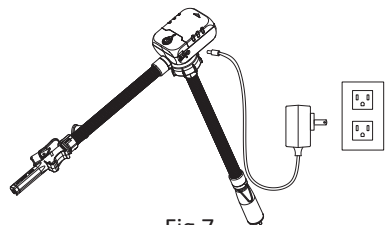

Fig.7
- 1.Insert the adapter plug into the power plug as Fig.7